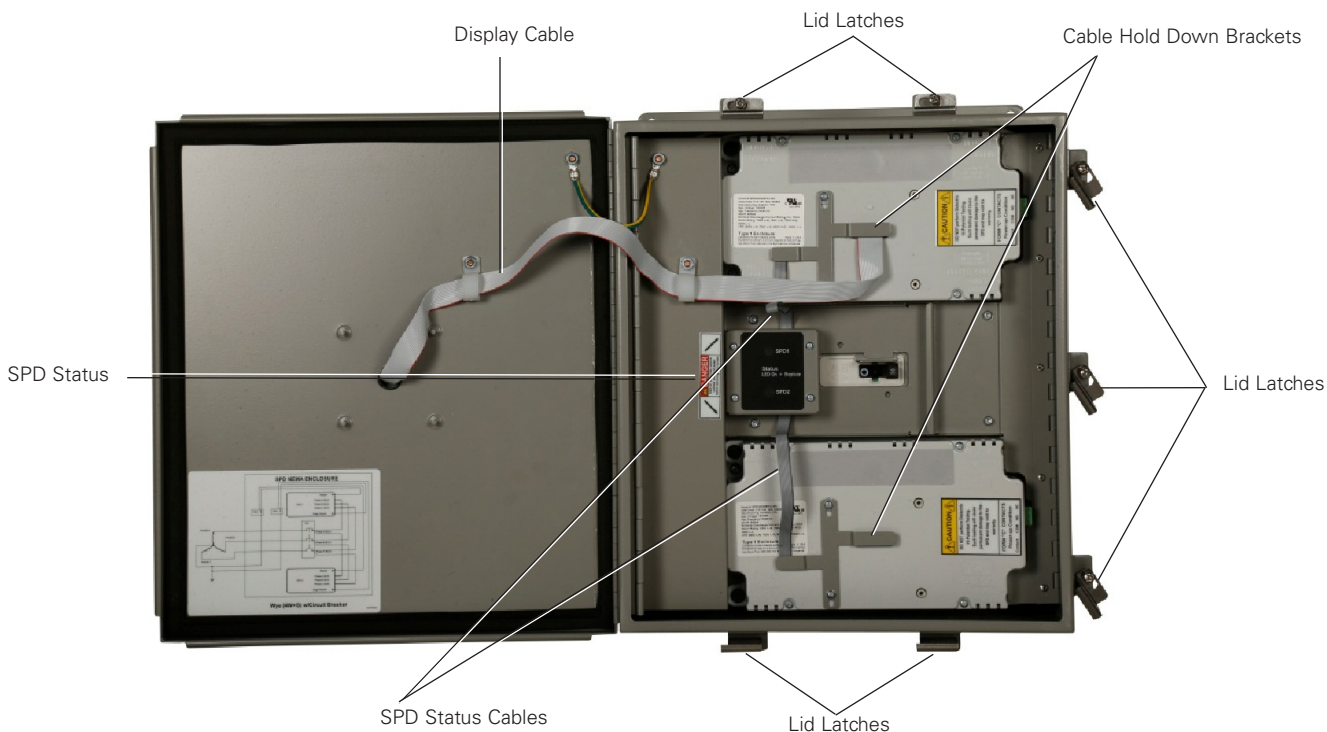

Figure 3. SPD Max with Two SPDs and Circuit Breaker
1. Open the front door of the SPD Max by loosening, but not removing, the 7 latches that secure the door to the base of the enclosure. See Figure 3.
2. To gain access to the wire termination compartment the display cable for a single brick, SPD1, must be unplugged. If the SPD Max contains two SPDs, SPD1 and SPD2, the display cable and two SPD Status ribbon cables must be unplugged. In either case, this is done by loosening the two Cable Hold Down Bracket screws ~ 1/2 turn and sliding the bracket(s) up to gain access to the ribbon cable connector(s). Using a pair of long nosed pliers carefully unplug the display cable and SPD Status cable connectors from the SPDs, if they are equipped. See Figure 3.